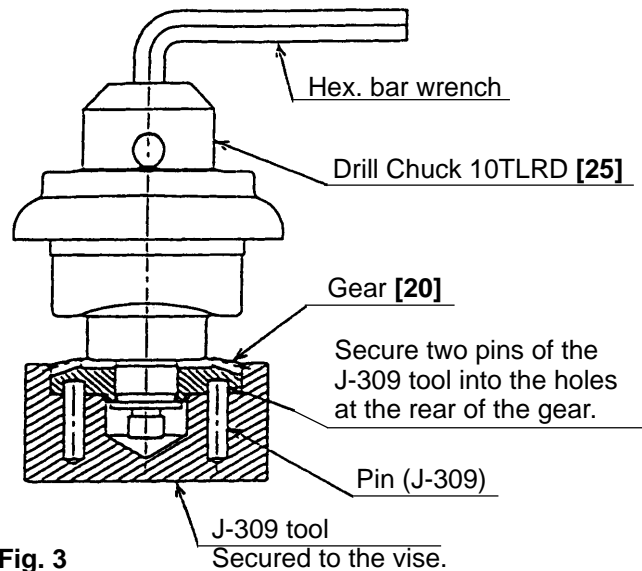

Fig. 3
- Secure the J-309 tool in a vise. Insert the pin of the J-309 tool into the hole at the rear of the Gear **[20]** and loosen the Drill Chuck 10TLRD **[25]**. When it is difficult to loosen the Drill Chuck 10TLRD **[25]** with a hex. bar wrench, use another tool such as a pipe to lengthen the handle and increase leverage (See Fig. 3).